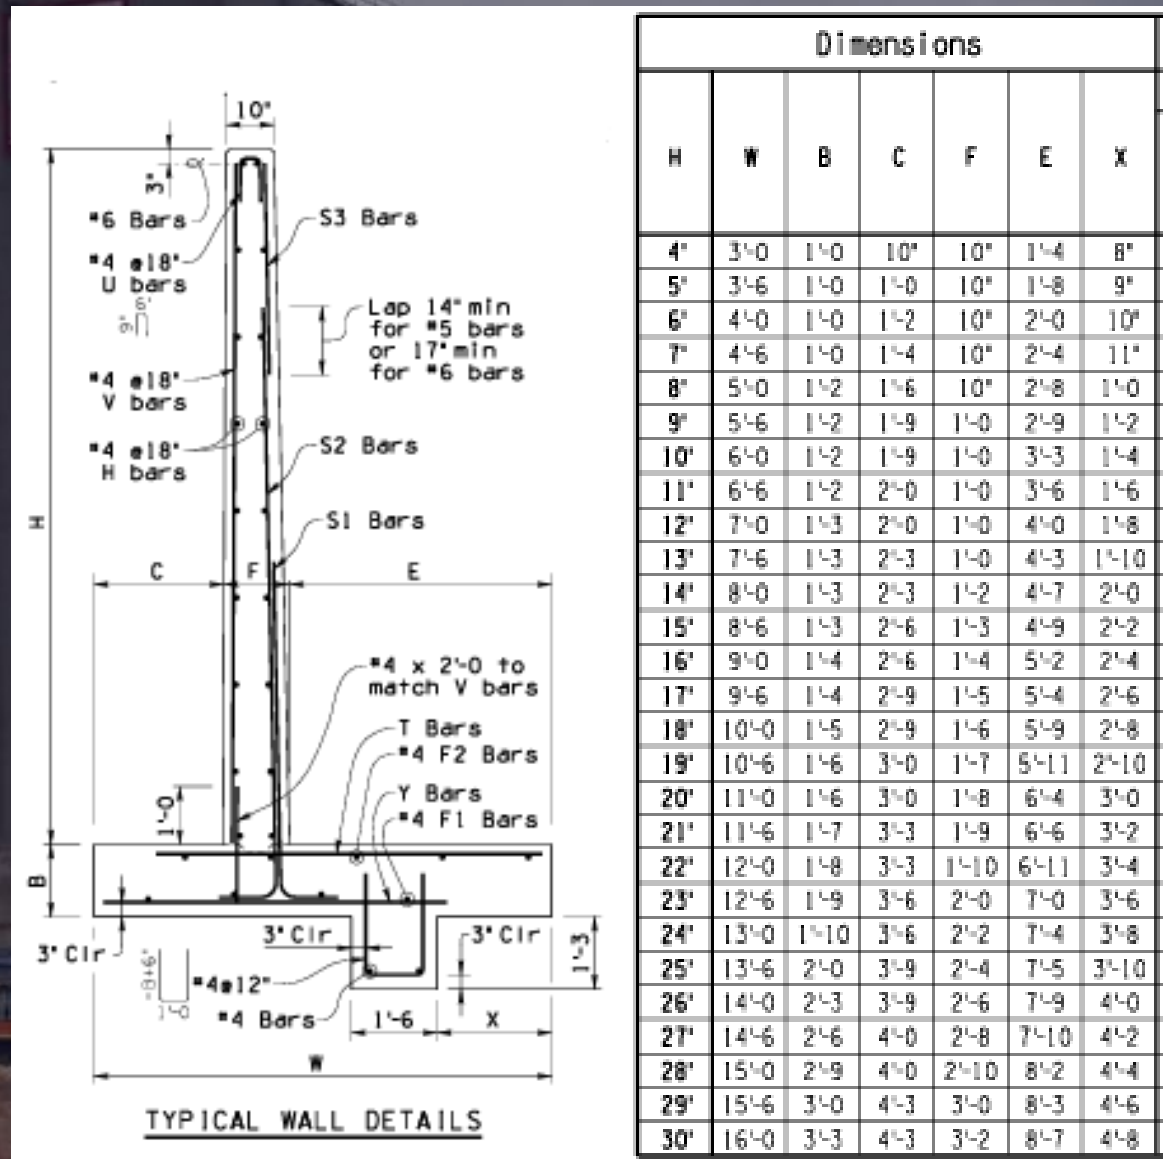

Figure 7: ADOT Typical Retaining Wall with Varying Dimensions [1]
- [9] Streams and Urbanization - Scientific Figure on ResearchGate. Available from: https://www.researchgate.net/figure/a-A-detention-pond-designed-to-capture-and-temporarily-store-runoff-from-the-adjacent_fig7_226149021 [accessed 25 Oct, 2022]